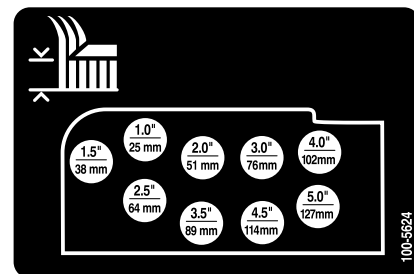

Figure 23
10. Mount the height-of-cut chains to the desired height-of-cut hole with the clevis pin and hairpin cotter (Figure 23).